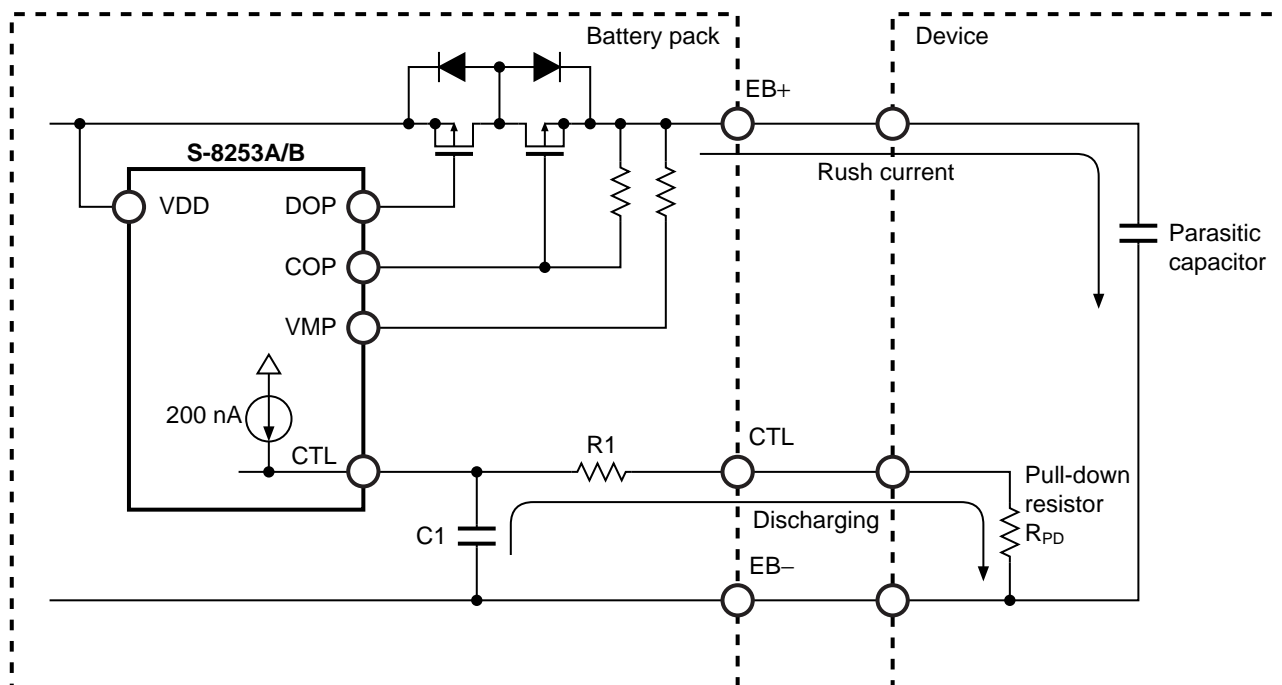

Figure 15
- In case of designing a circuit by using the CTL pin, as seen in **Figure 15**, note that discharging may stop during connecting a battery pack and the device.
As seen in **Figure 15**, before a battery pack is connected to the device, the battery pack may be in the charge / discharge inhibited status in which the CTL pin is internally pulled-up. From this status, if connecting the battery pack to the device, the CTL pin will be pulled-down in a time-constant $C1 \times (R1 + R_{PD})$ by a pull-down resistor in the device. If the CTL's potential reaches $V_{CTLH} < V_{CTL} < V_{CTLLH}$, the battery pack goes in the delay time-shortening status so that it releases charging and discharging, hence it starts charging a parasitic capacitor in the device. In this case, if the rush current, which makes the S-8253A/B Series to detect the overcurrent detection voltage 3 (V_{IOV3}), flows into the device, the overcurrent detection delay time 3 ($t_{IOV3} = 300 \mu s$ typ.) will be shortened. So that the battery pack goes in the overcurrent status in several 10 μs . However, the battery pack goes in the normal status by connecting the device to the charger.